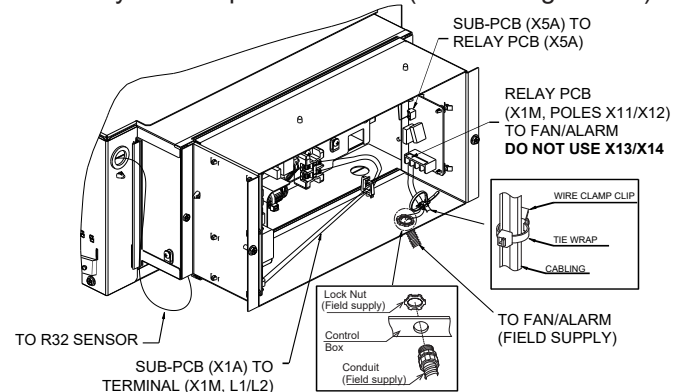

**FIGURE N.4**
1. Locate the Relay PCB terminal block X1M and identify the dry contact poles X11/X12 (Refer to Figure N.4)
- To avoid pulling forces transferring to the terminal strip, secure the cable using the wire clamp clip and a tie wrap. Secure the tie wrap through the clamp clip and around the cable. Tighten the tie wrap. (Refer to Figure N.4)